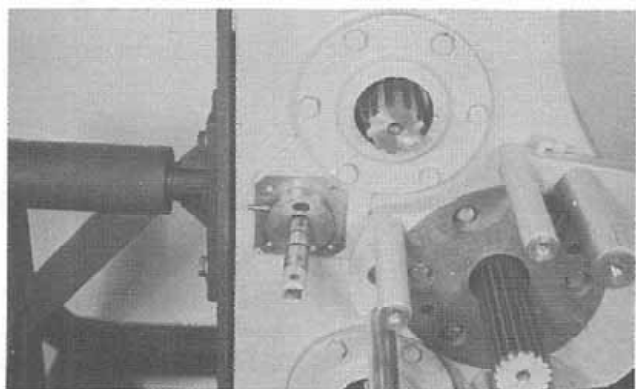

Figure 26:
20. Slide the adjusting block over the shift rod and install the dowel pin across the flat of the shift rod (Fig. 26). Apply sealant (Steiger part number 19-880) to the adjusting block capscrews. Run them in until they touch the block. Rotate the block to the right and left; find the center of rotational travel and secure the capscrews to 35 to 40 lb. ft. (4.84 to 5.53 Kg/M).